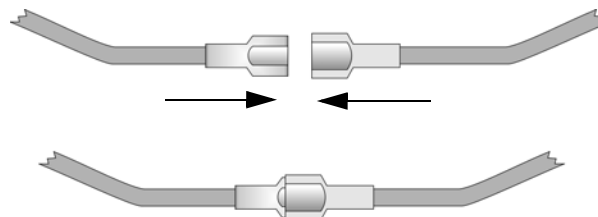

Figure 4-4 Splicing Control panel Battery Cable to RBB Battery Cable Extenders
2. Connect the main control panel battery cables to the battery cable extenders as shown in Figure 4-4.